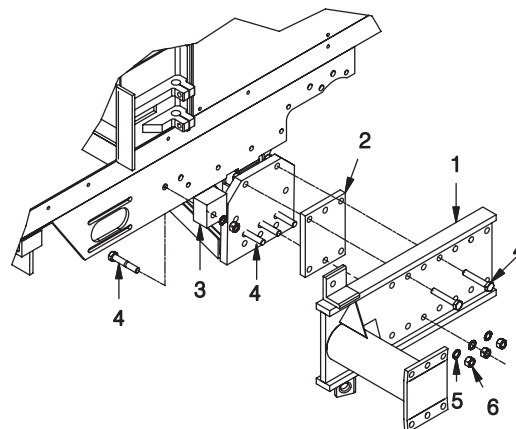
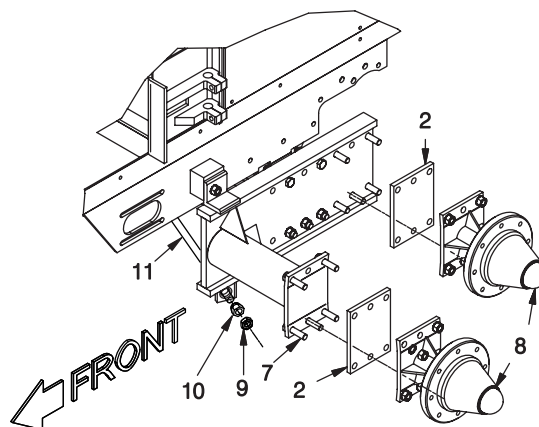

Figure 1 - Mounting Spacer Plate & Tandem Plate
Figure 2 - Mounting Spacer Plates, Hubs & Truss Rod
A. Place (3) 219530 Bolts through the axle as shown in Figure 1. Place (1) 219530 Bolt through frame as shown in Figure 1. Place (1) PLT0026966 Spacer on axle as shown in Figure 1. Place (1) 901620 Tandem Plate and (1) 901274 Spacer as shown in Figure 1. Place the rest of the bolts, star washers and nuts on so the tandem plate and spacer are secure.
B. Place (10) R13807958 Bolts in tandem plate as shown in Figure 2. Place (2) F000007636 Spacer Plates on the tandem plate as shown in Figure 2. Place (2) F000008003 Hub and Spindle assemblies as shown in Figure 2. Place all star washers and nuts so the hub and spindle are secure. Torque all nuts and bolts as per torque chart on page 1. Place (1) RD00708600 Truss Rod as shown in Figure 1. Secure truss rod finger tight with (2) NMS0007125 Truss Rod Nut and (2) NFJ0000750 Jam nut.